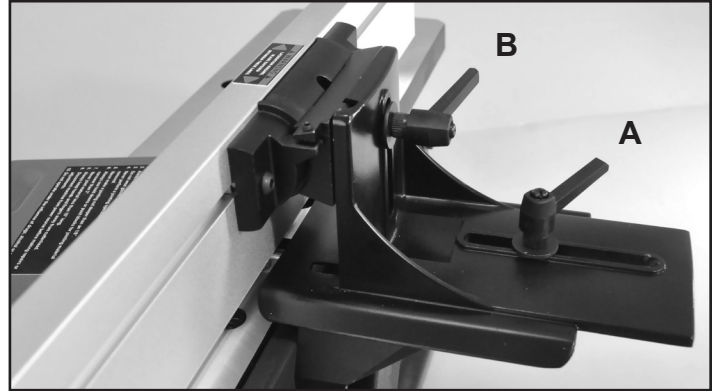

FIG. 18
1. To move the fence across the table, loosen the lock lever (A), slide the fence to the desired position on the table and then retighten the lock lever. FIG. 18.
**NOTE:** The handle direction of the lock levers (A) and (B) can be repositioned by pulling up the lever and repositioning it on the nut located underneath the lever.
2. To tilt the fence, loosen the lock lever (B), and tilt the fence to the desired angle. Then retighten the lock lever. FIG. 18.